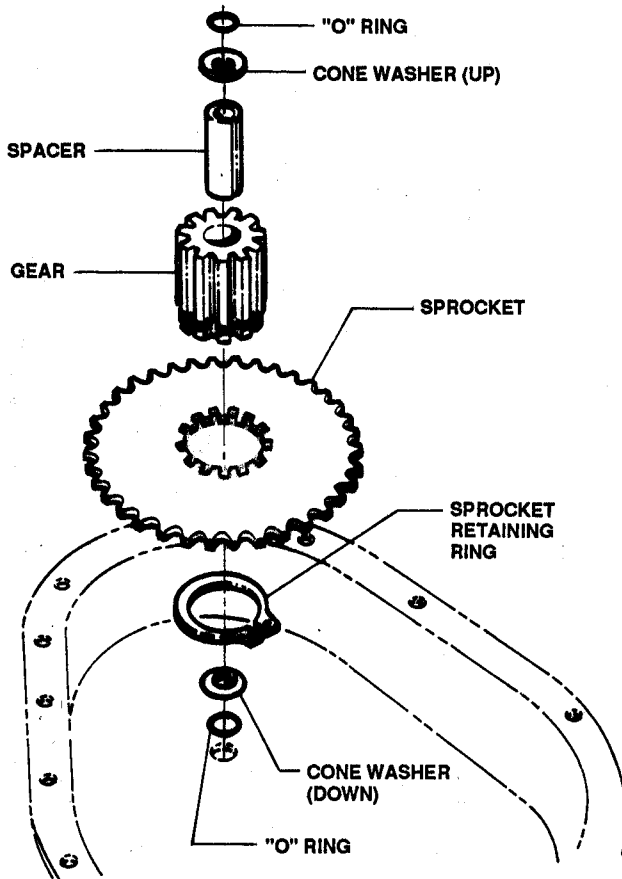

FIGURE 4.22
17. Remove lower cone washer and "O" ring. See Figure 4.22.